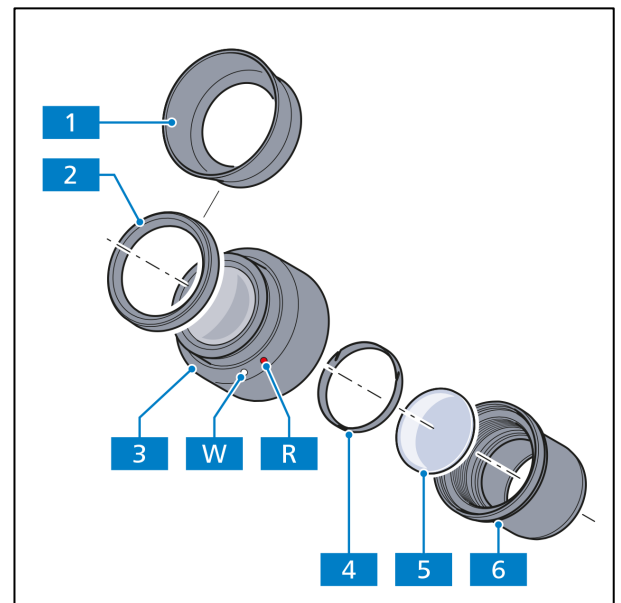

Fig. 3-6 Inserting the eyepiece reticle
Eyepiece reticles (Fig. 3-6/5) can be used with eyepieces (Fig. 3-6/3) marked with a red dot (Fig. 3-6/R).
- Unscrew mounting stop (Fig. 3-6/6) from the eyepiece (Fig. 3-6/3).
- Pull locking ring (Fig. 3-6/4) out.
- Insert eyepiece reticle (Fig. 3-6/5) into the mounting stop and fix it with the locking ring.
- Screw mounting stop (Fig. 3-6/6) into the eyepiece (Fig. 3-6/3).
Make sure that the side of the reticle (Fig. 3-6/5) with the line pattern on it is facing the mounting stop in the tube (Fig. 3-6/6) (the line pattern occurs mirror-inverted from the observer's point of view before the insertion). After insertion into the beam path of the microscope it is readable true to side.
The slight image shift caused by the additional path through glass is taken into account on the diopter scale by the fact that the zero point position is indicated not by the white dot (Fig. 3-6/W), but the red dot (Fig. 3-6/R).
- To do this, remove the eyeglass protection rings (Fig. 3-6/2) from the eyepieces and mount the eyecups (Fig. 3-6/1).